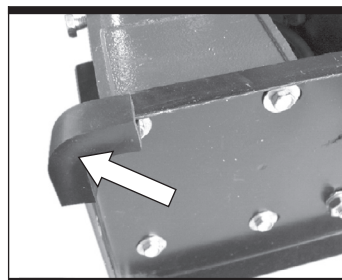

Fig 9-1
7. Mounting the plastic feet (see Fig 9-1 & 9-2)